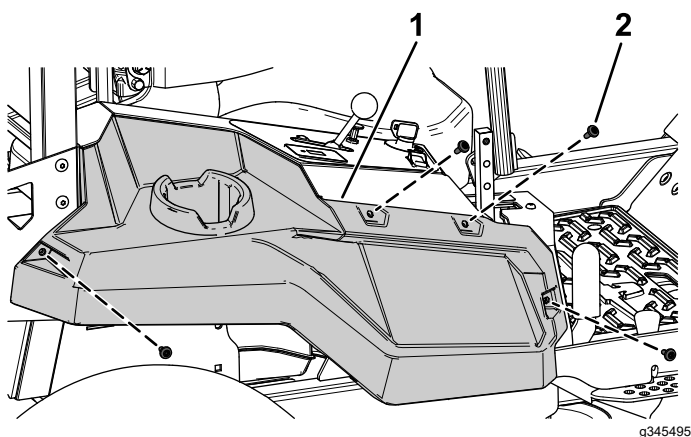

Figure 16
4. Remove the 4 shoulder screws securing the right side pod (Figure 16).
5. Remove the right side pod (Figure 16).